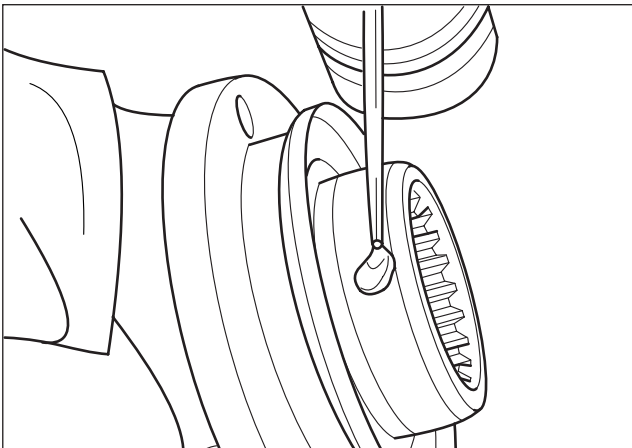

Fig. 2.68
9. Lubricate seal journal of flange. (Fig. 2.68)